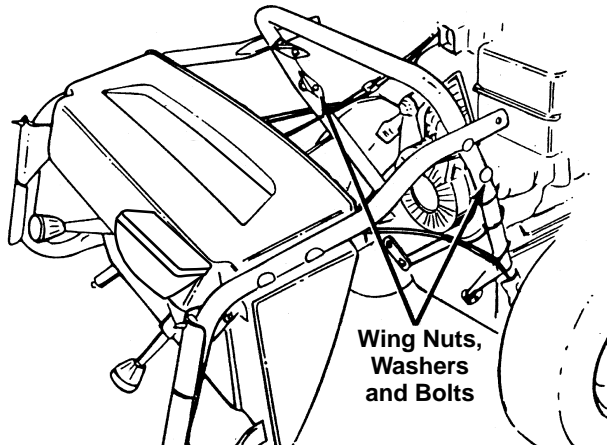
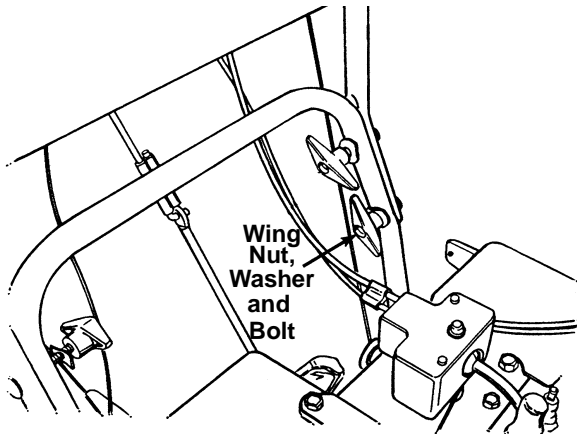

Figure 3
Figure 4
5. Remove the **lower** two plastic wing nuts, cupped washers and carriage bolts from each side of the upper handle. See Figure 3.
7. Raise the upper handle assembly until it locks over the lower handle. See Figure 3 and Figure 4.
8. Secure the upper handle and lower handle with the two plastic wing nuts, cupped washers and carriage bolts previously removed. See Figure 4.